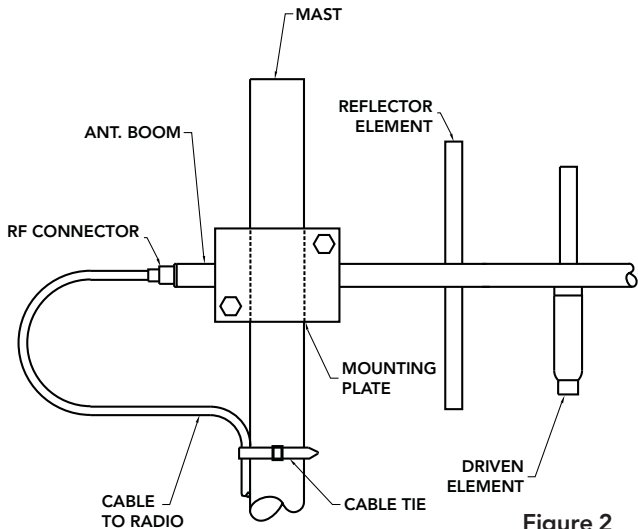

Figure 2
3. The antenna input connector is a Type "N" Female. Connect RF feed cable terminated with Type "N" Male to antenna input connector. Secure all cables with cable ties. Fig. 2 illustrates a typical method for connecting the RF cable, with a feed cable service loop.